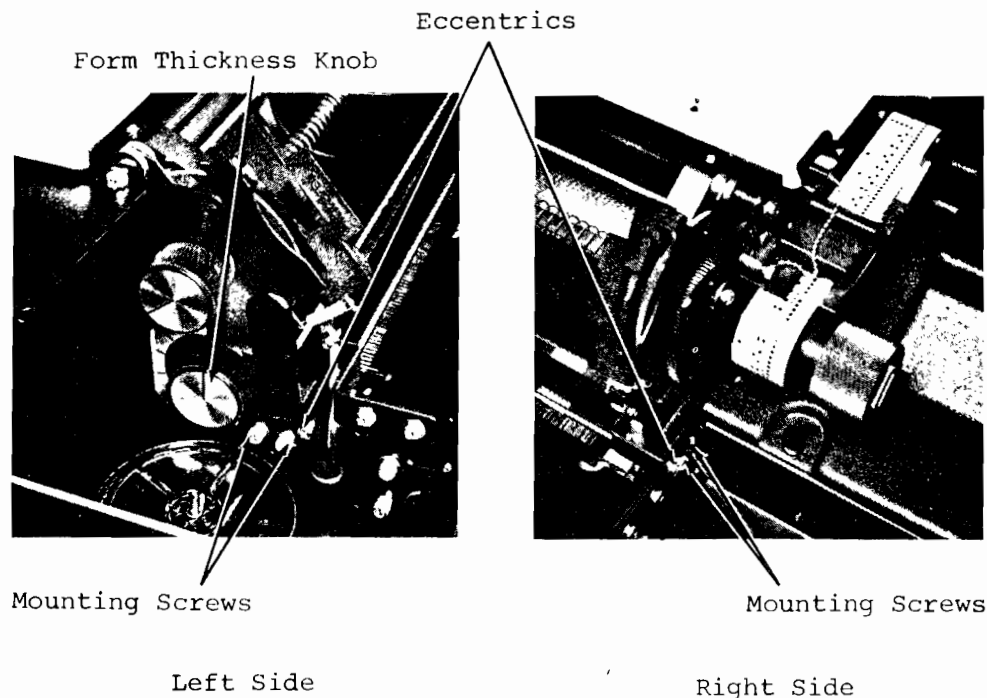

Figure 5-9. Platen Mounting
- d. Loosen the platen screws (figure 5-9) on both ends of the platen. Set the form thickness knob so the line points straight up and the dots on the eccentrics (both ends) are down.